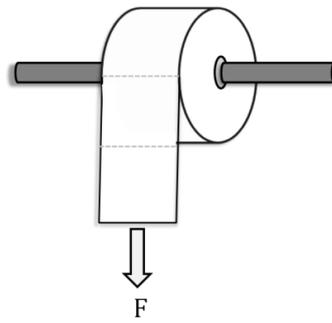

Figure 3. Full roll of toilet paper on a rod
3. Teacher asks students to find a way to cut toilet paper using only one hand. Put a full roll of toilet paper on the end of a rod to keep it in place. Have a student try to cut a piece of paper with one hand (see Fig. 3).